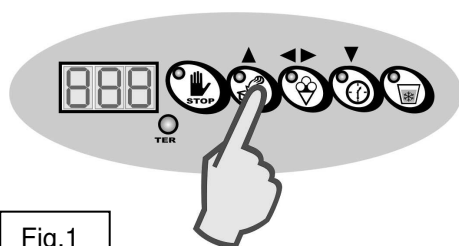
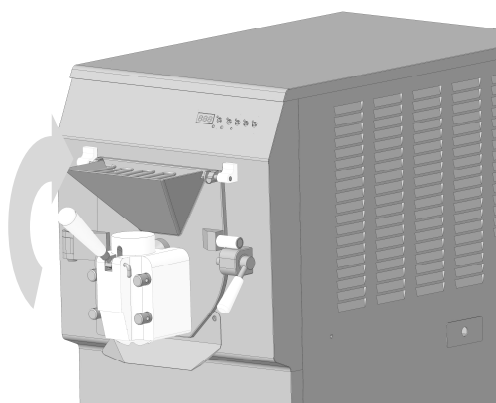

Fig.1
Fig.2
- Press the ESTRAZIONE (EXTRACTION) button in order to start the beater motor and let it run for about 3' (Fig.1). Open the dispenser disk to drain all the wash water (Fig.2). Repeat the procedure until the water coming out is clear and clean.
- Press the ESTRAZIONE (EXTRACTION) button in order to start the beater motor and let it run for about 5' (Fig.1). Open the dispenser disk to drain all the sanitising solution (Fig.2).